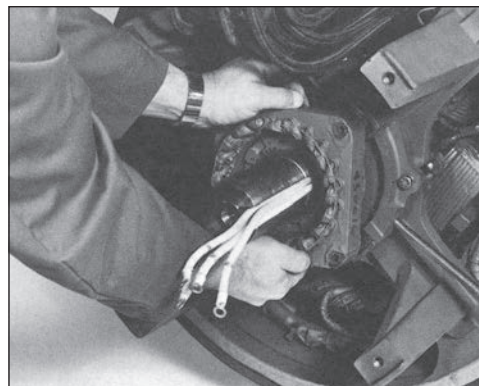

Figure 6-69
4. Install the PMG stator on it's mounting pads, with the leads in the left (9 o'clock) inboard position, and secure with the four mounting capscrews and belleville washers (figures 6-69 and 6-72). Torque to 6 ft-lb (8 N-m).